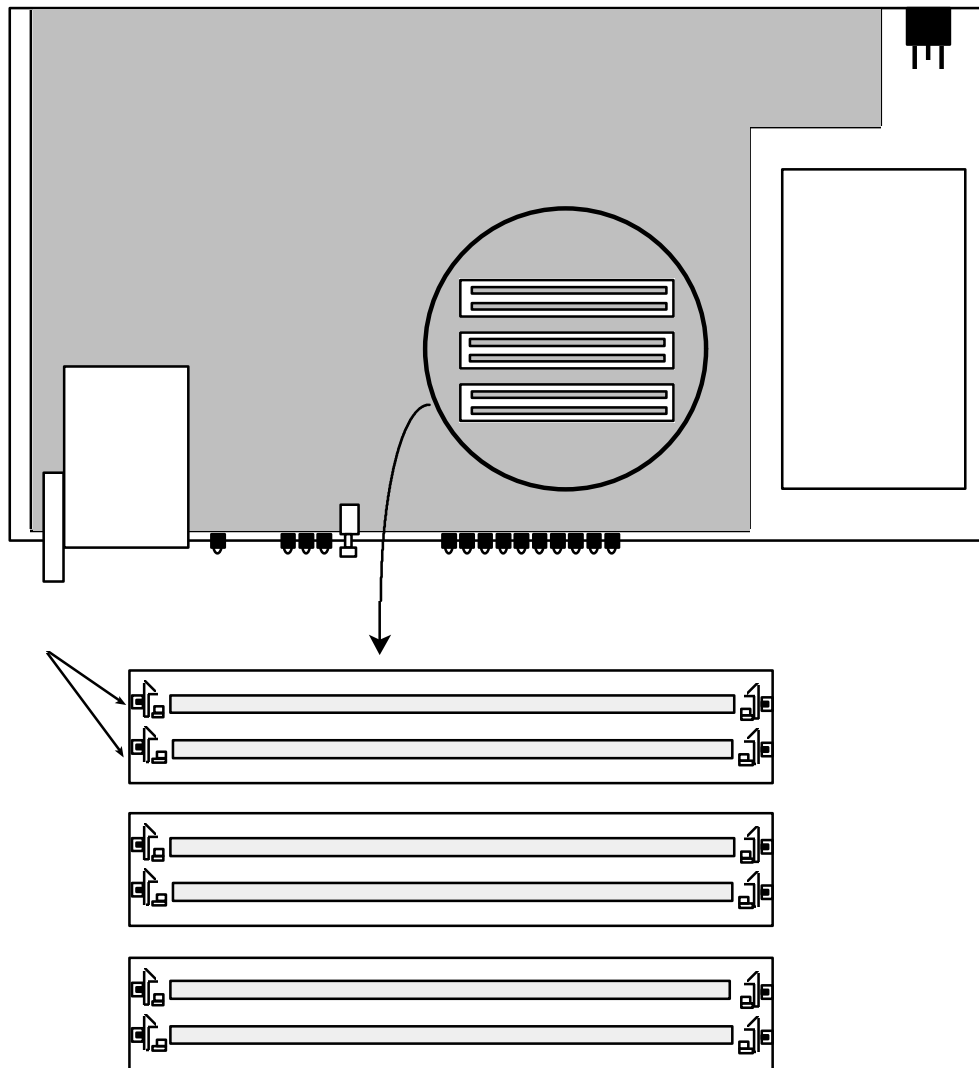

Figure 32 - Location of SIMM Sockets
5. Locate the SIMM sockets inside the MAXserver (see Figure 32).